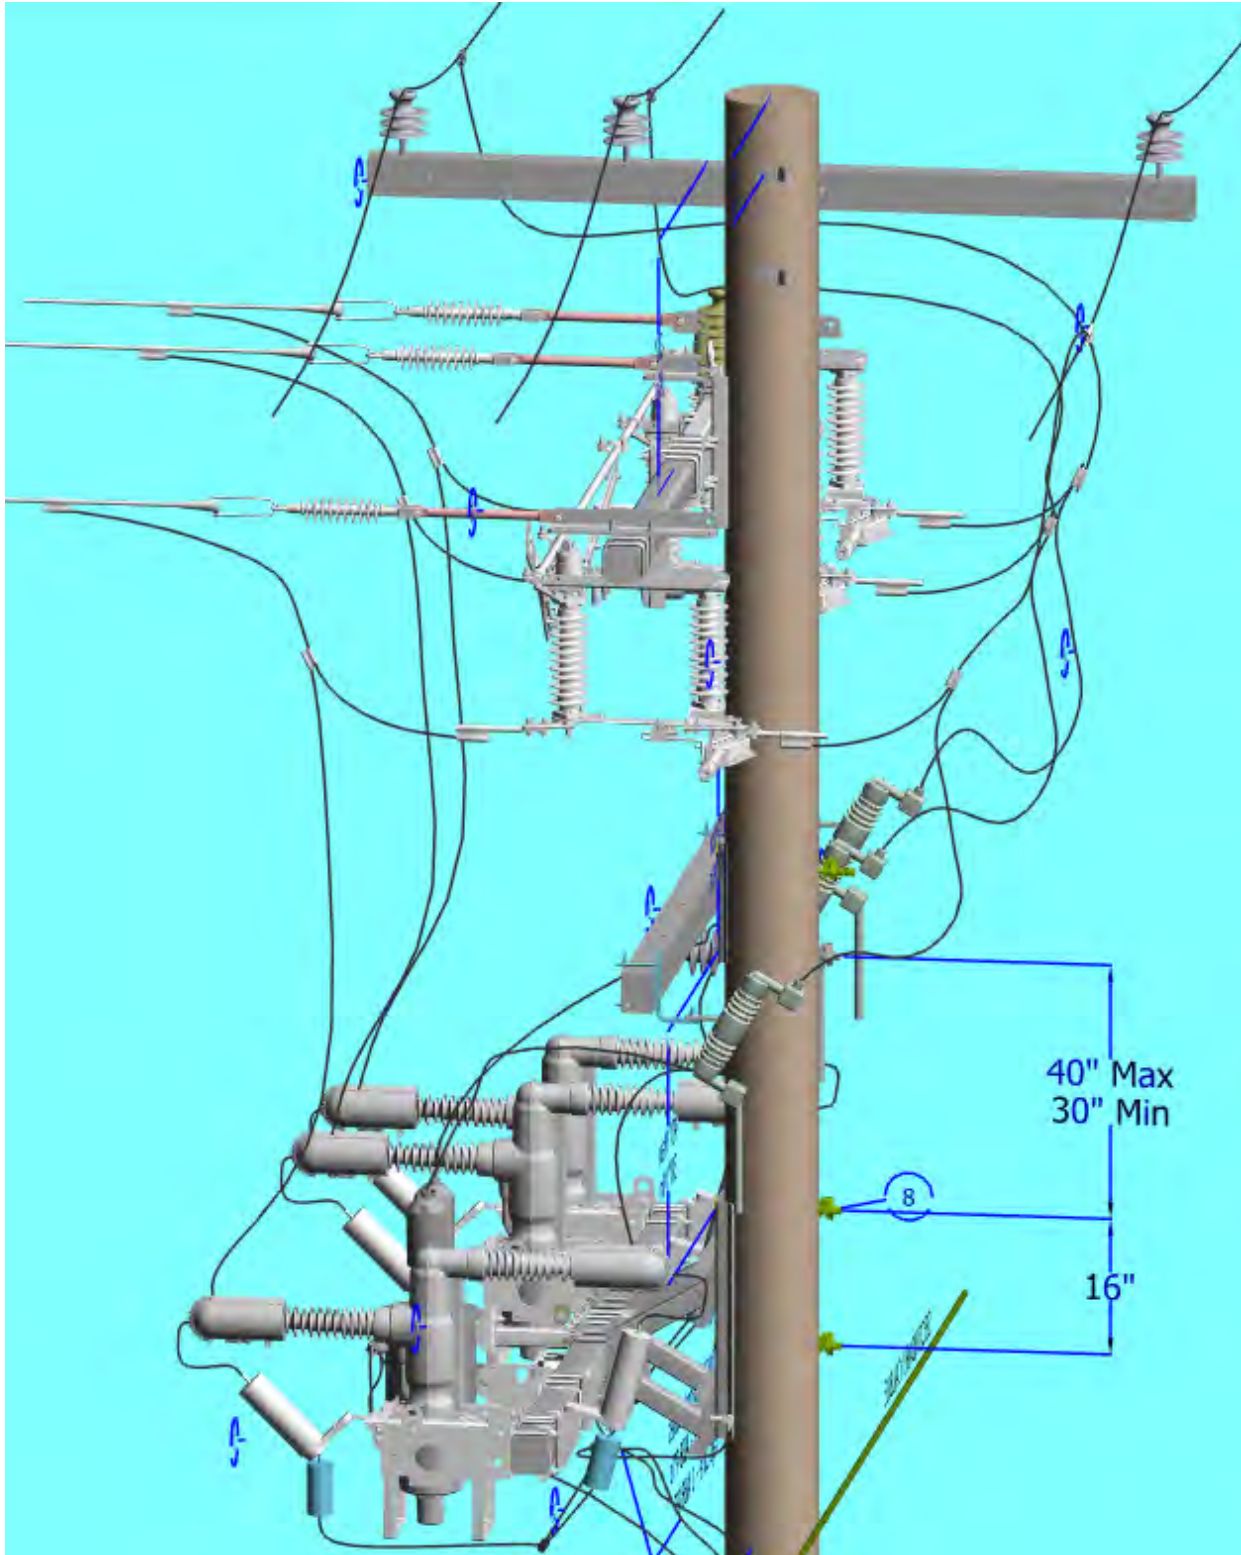

Figure 16
8. Updated Figure 16 on Page 26.